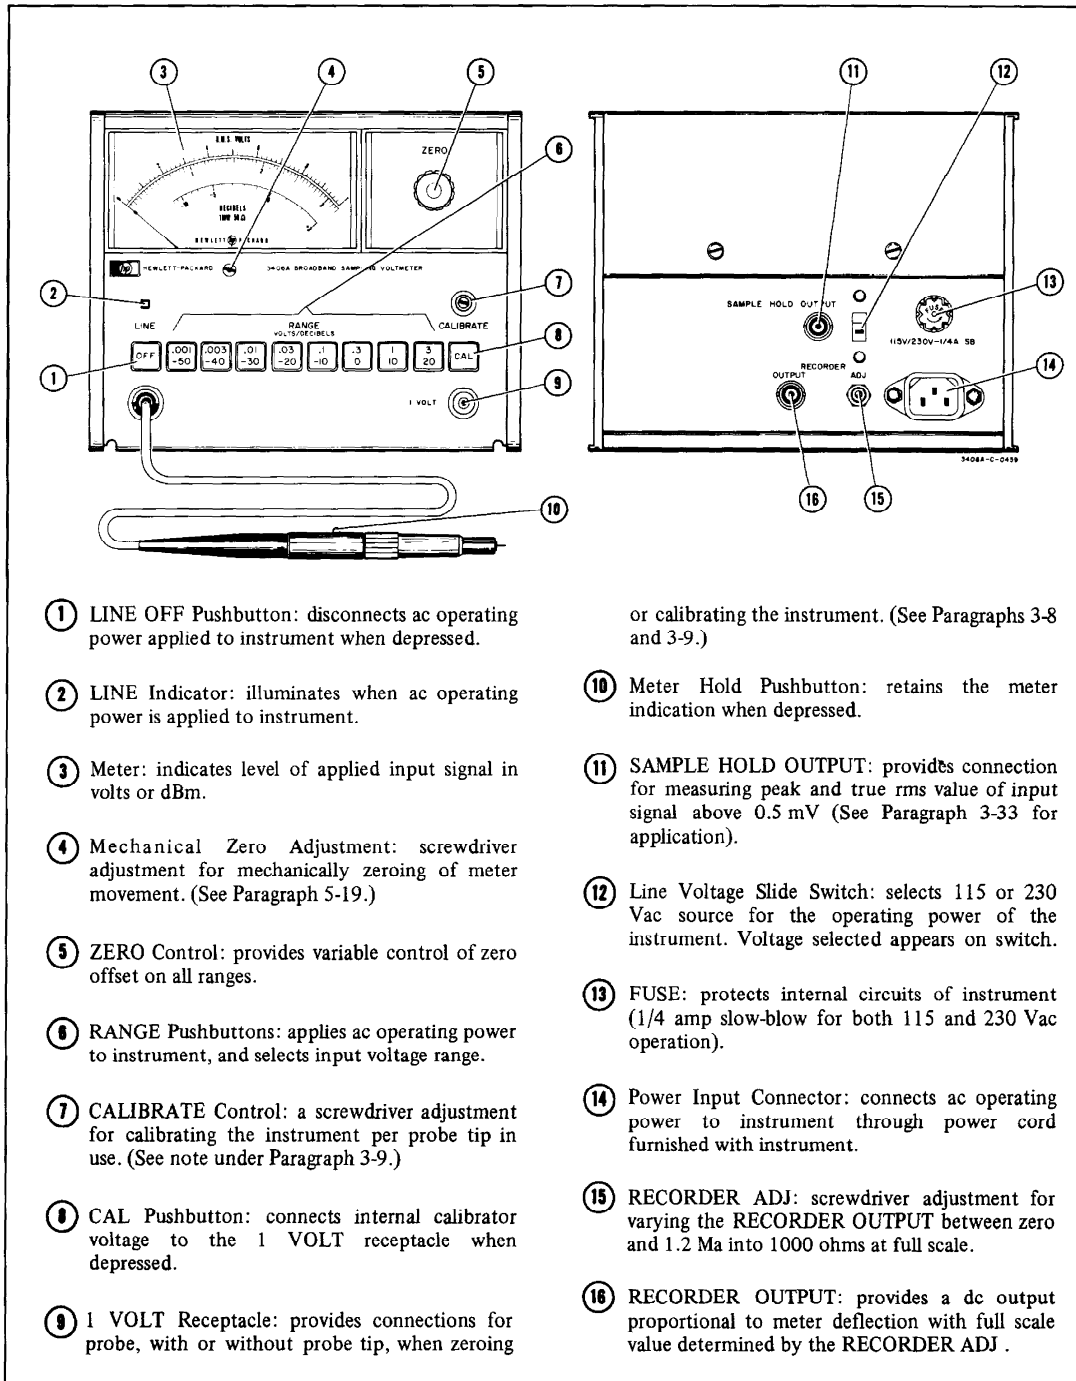

Figure 3-1. Front and Rear Panel Controls, Indicators and Connectors
3-4. The function of the front and rear panel controls, indicators, and connectors is identified in Figure 3-1.
- a. Position the Line Voltage Switch (12, Figure 3-1) on the rear panel to the source voltage to be used. Connect the power cord.
- b. Depress the 1 volt RANGE Pushbutton (6) and verify that LINE indicator (2) lights.